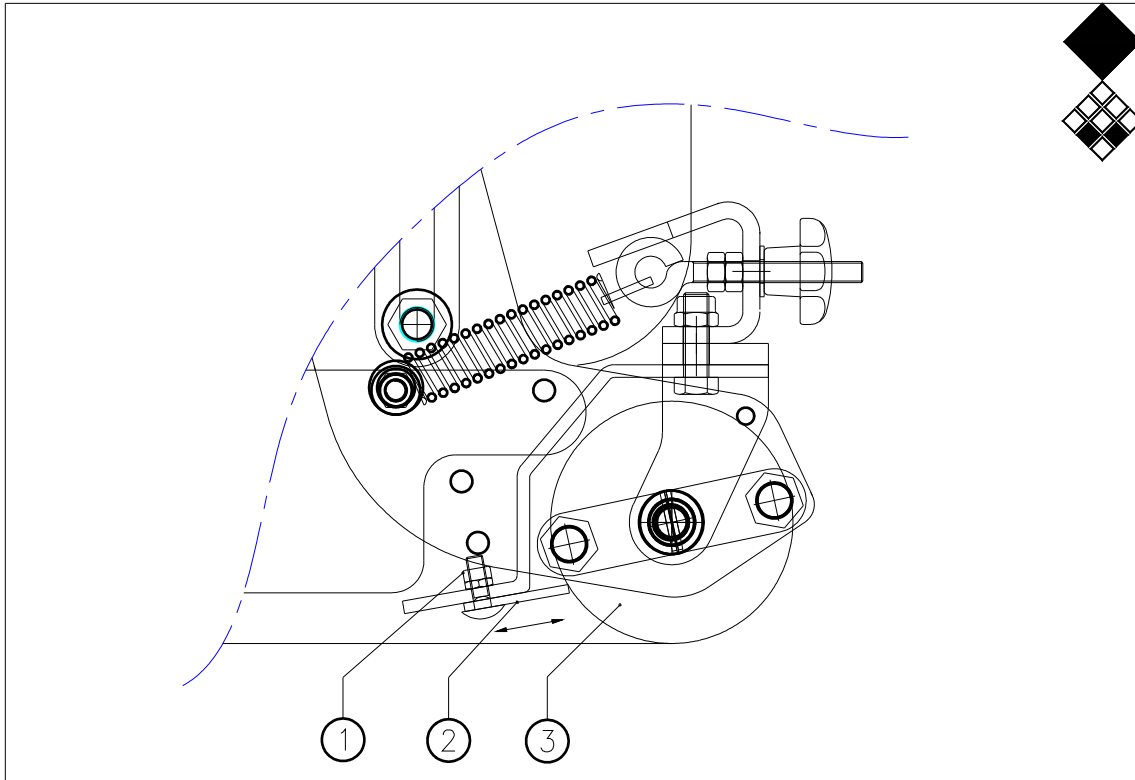

fig.7
2.0 Adjusting the scraper strip (see fig. 7)